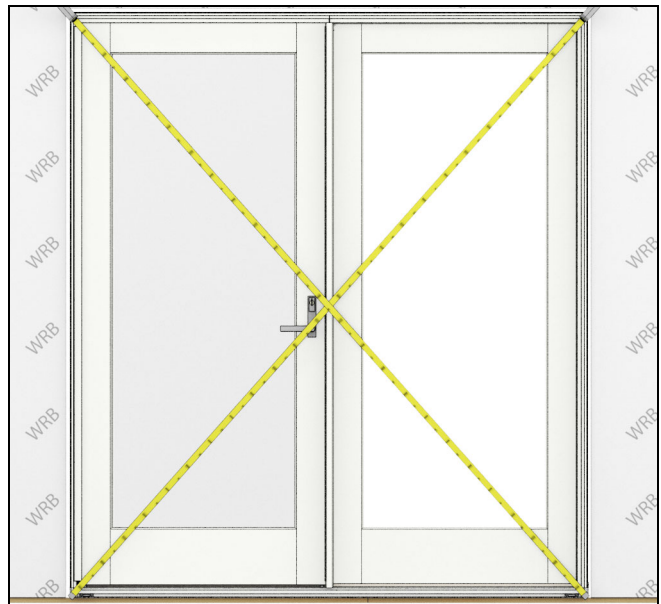

Figure 14
5. Check diagonal measurements for the entire frame. Adjust as necessary by applying shims to the corners 6" (152) from the sill and head jamb. See Figure 14.